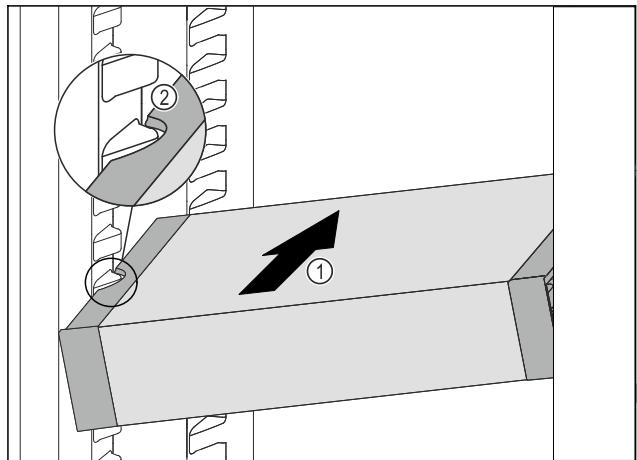

Fig. 83
- ▶ Insert the VarioSafe into the fridge section at an angle Fig. 83 (1) until the recesses in the side Fig. 83 (2) of the VarioSafe are at the level of the support rib in the fridge section.